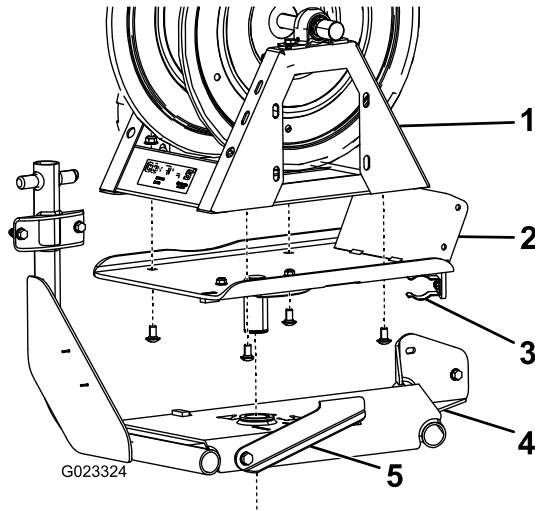

Figure 6
2. Attach the swivel plate to the bottom of the hose reel using 4 carriage bolts and 4 flange nuts (3/8 inch) (Figure 6).
3. Drop the swivel plate into the hole on the hose-reel frame (Figure 6).